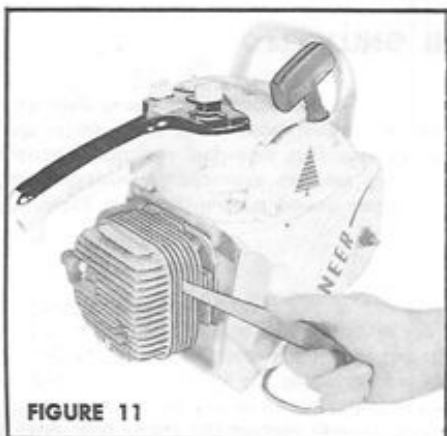

FIGURE 11
2. **CYLINDER HEAD AND FINS:** Once a week remove the rear housing and expose your power head. With a thin tool remove any accumulated sawdust from between the fins. This increases the cooling effect of forced air from the fan on the flywheel. (Figure 11).